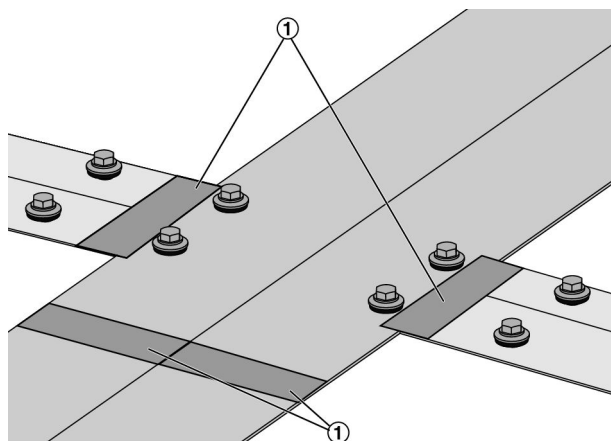

Fig. 22: Sealing the joints
2. ▶ Seal the joints ( Fig. 22 /1) between the cover strips with the supplied adhesive strips (100 x 40 mm).